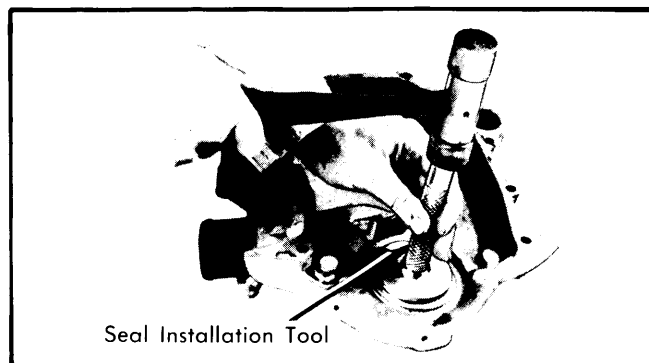

**Fig. 15** Aligning Front Cover
2) Position front cover on cylinder block. Install front cover to seal alignment tool in proper position as shown in Fig. 15.